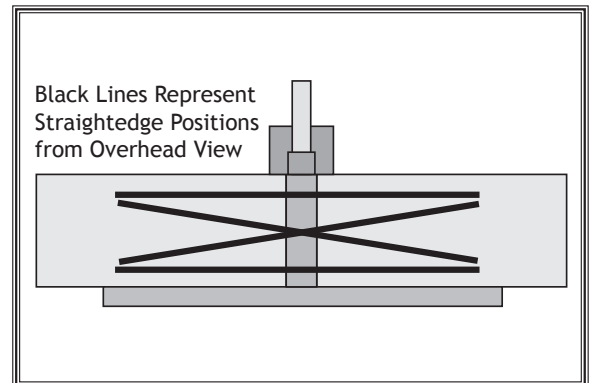

Figure 40. Straightedge positions for checking infeed/outfeed table parallelism.
3. Place straightedge in the positions shown in **Figure 40**. In each position, straightedge should sit flat against both outfeed table and infeed table.